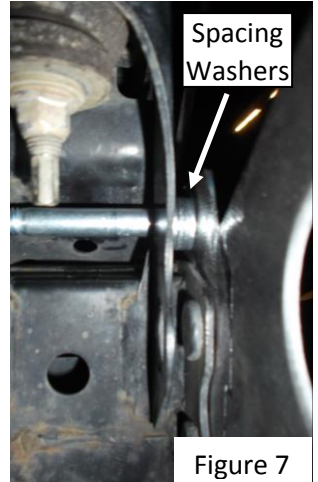

Figure 7
18. Insert two of the $\frac{1}{2}$ " x 5" Hex Bolts with a $\frac{1}{2}$ " USS Flat Washer through the top slots of the bumper mounting plate. Use spacing washers (the washers with the smaller outside diameter) to fill the gap between the bumper mounting plate and the body mount portion of the frame as shown in **Figure 7**. Select the appropriate number of spacer washers to match the size of the gap as closely as possible (most applications will use 5 spacer washers per side.) Insert the $\frac{1}{2}$ " x 5" bolt through the mounting plate, through the spacing washers, and then completely through the frame. (You can create more finger space by backing off the 6 nuts threaded on in step 17).